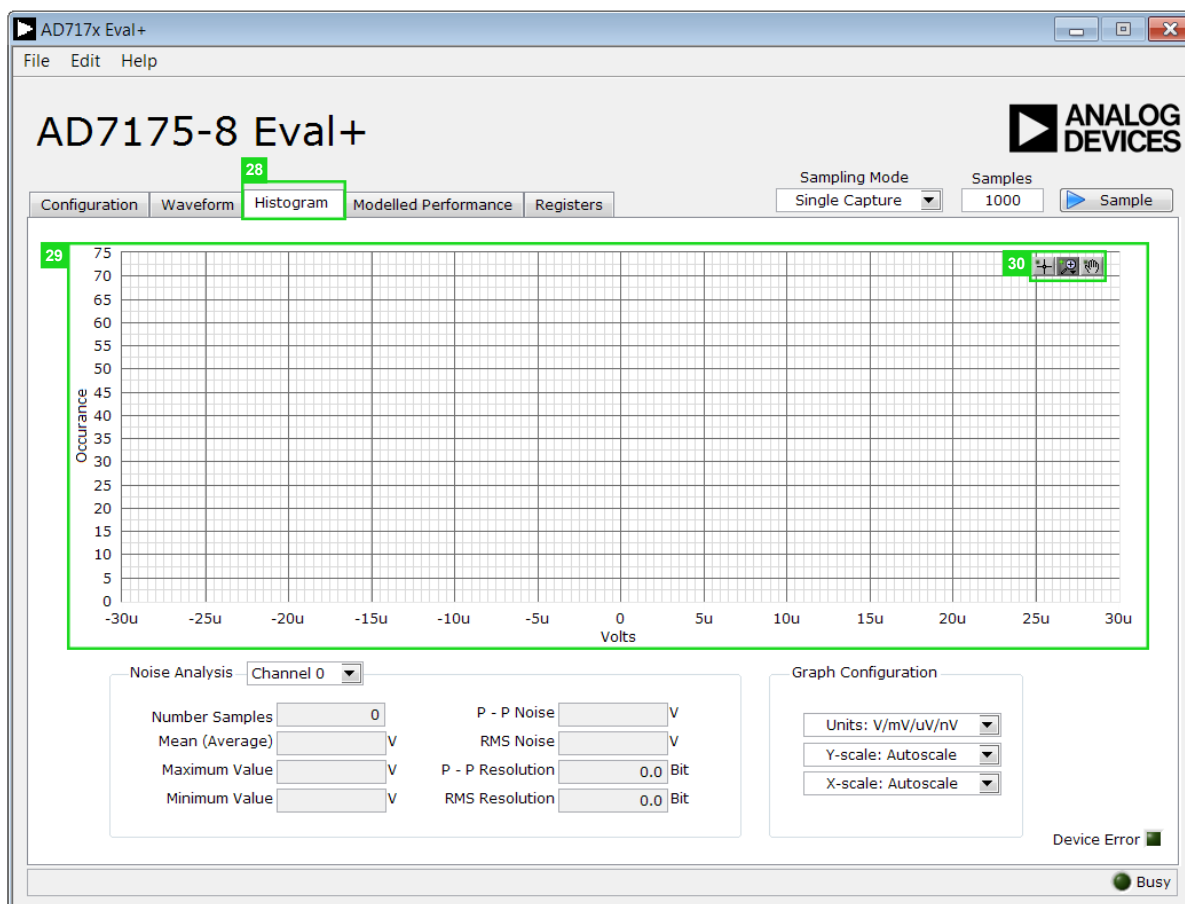

Figure 19. **Histogram** Tab of the AD7175-8 Eval+ Software
Figure 19 shows the **Histogram** tab of the AD717x Eval+ Software.
The data histogram graph (29) shows the number of times each sample of the ADC output occurs. The control toolbar (30) in the histogram graph allows the user to zoom in on the data (see Figure 19). Click the x-axis and y-axis to change the scales on the graph (see Figure 19).